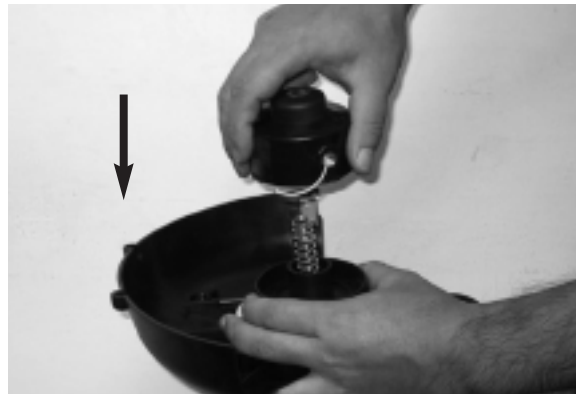
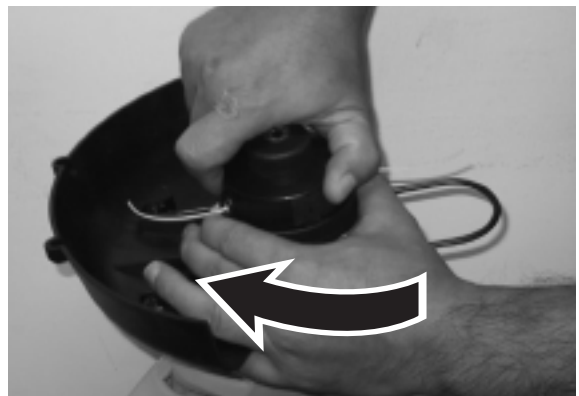

Fig. 28
Fig. 29
8. Make sure to insert the spring, assemble the spool and spool carrier back onto the trimmer. To do so, push the head on and turn it clockwise until it locks. (Fig. 28 and Fig. 29)